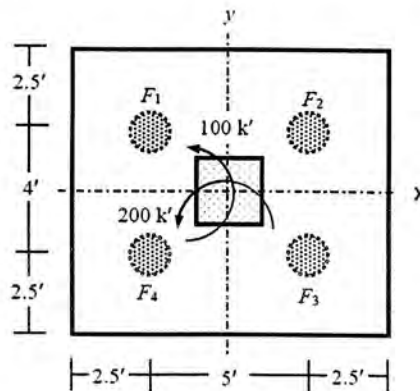

Fig: 5
7. A 25x25 inch column (**Fig: 5**) carrying working loads $DL = 300 \text{ k}$, and $LL = 200 \text{ k}$ is underlain by soil with allowable bearing capacity $= 2 \text{ ksf}$. The column also carries biaxial moments (due to LL) of $M_x = 100 \text{ k-ft}$ and $M_y = 200 \text{ k-ft}$. The footing area beneath the column must not exceed $(10' \times 10')$ because of proximity to adjacent columns. Use the USD to analyze and design the footing [Given: $f'_c = 3 \text{ ksi}$, $f_y = 50 \text{ ksi}$].